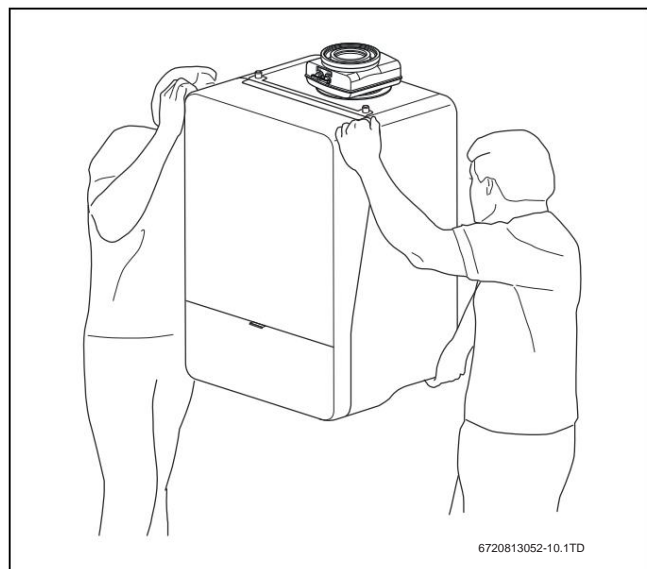

Figure 11 Proper lifting and carrying of the device
- Only touch the device on the sides and not on the be control panel or on the exhaust pipe connection (• fig. 11).